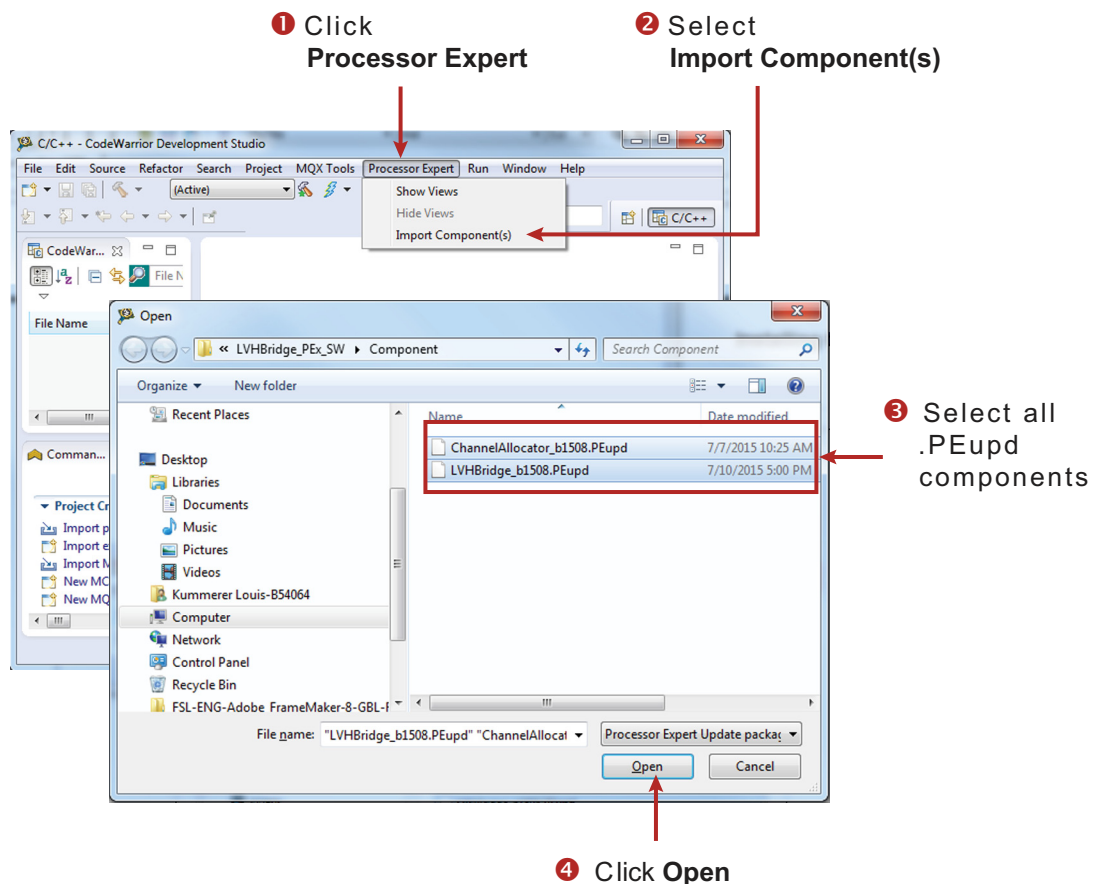

Figure 7. Import LVHBridge Component
2. In the pop-up window, locate the component file (.PEupd) in the example project folder LVHBridge_PEx_SW\Component. Select **LVHBridge_b1508.PEupd** and **ChannelAllocator_b1508.PEupd** files then click **Open** (see Figure 7).